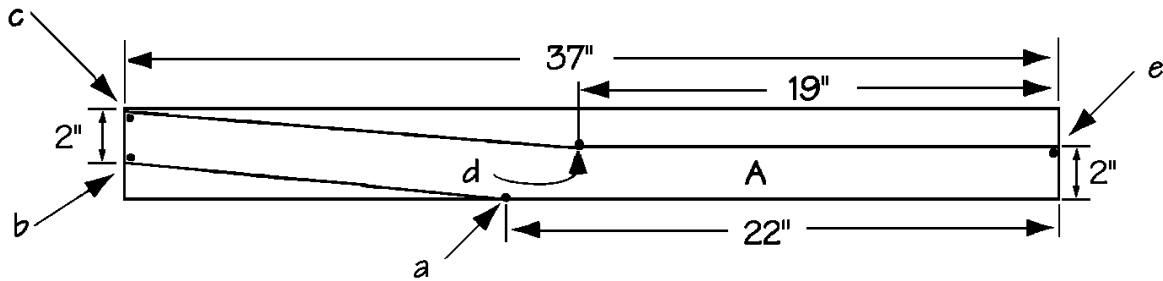

Figure 1
1. Cut two back legs (A) from 2 x 4 pine, each measuring 37 inches long.
2. Refer to *Figure 1* to mark and cut the first chair leg. Measure and mark points "a", "b", "c", and "d". Draw a line connecting "a" to "b", "c" to "d", and "d" to "e". Then cut along the lines to remove the shaded areas of the pattern. Use the resulting back leg (A) to cut a second back leg (A).